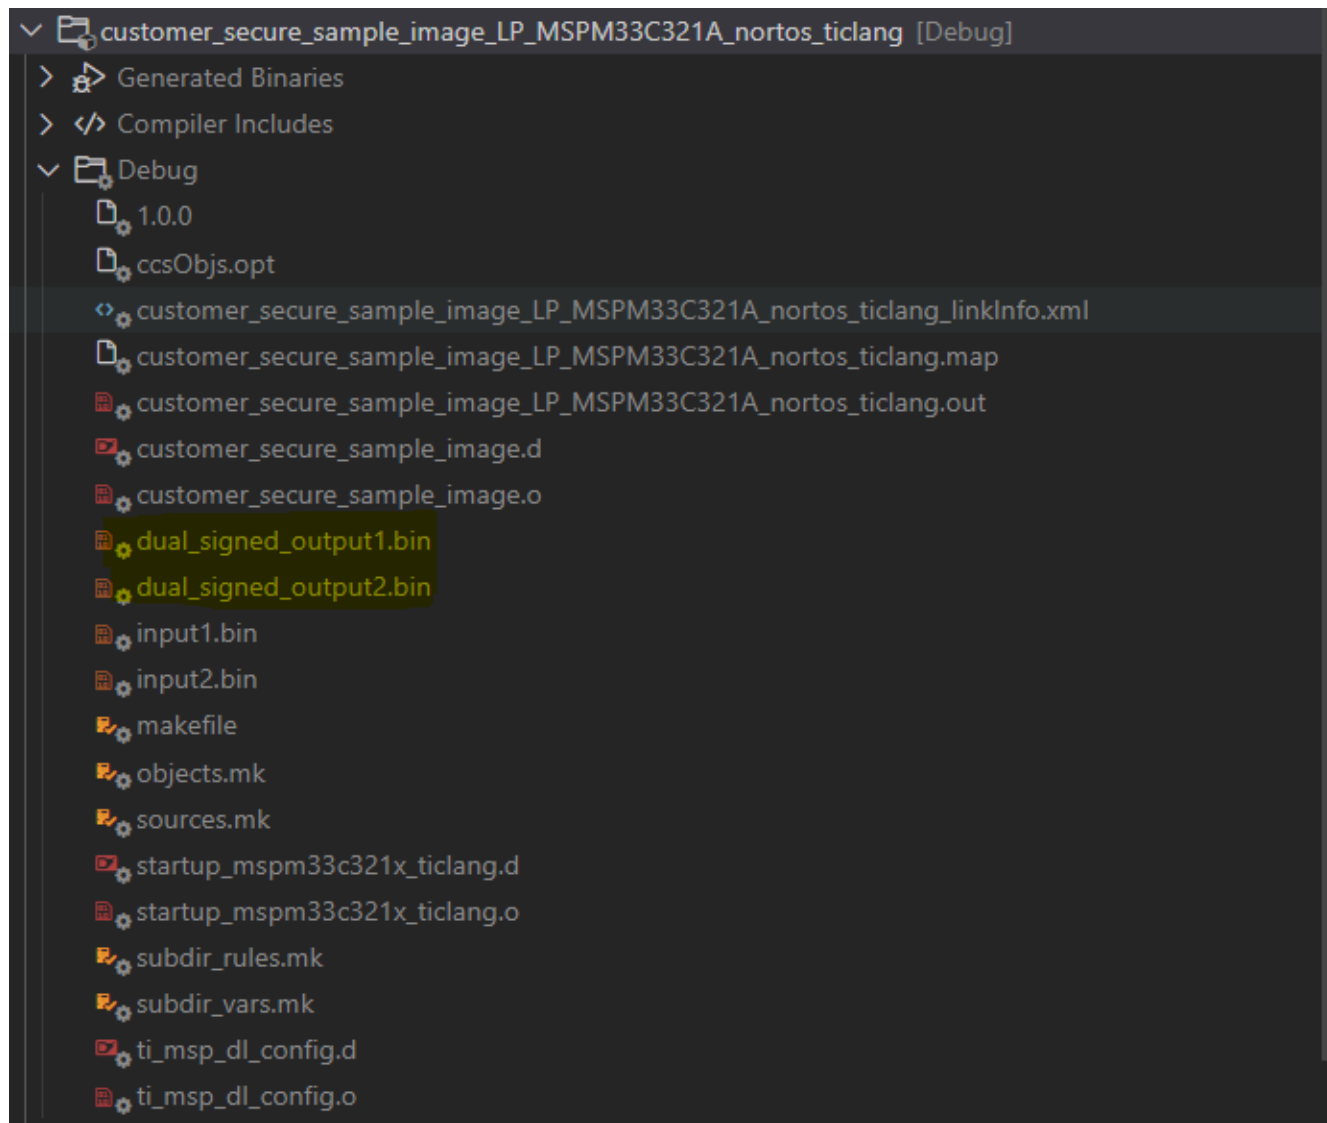

Figure 3-11. Debug Folder in the Project
- Now build the project again. This will generate the "dual_signed_output2.bin". Figure 3-11 shows what the debug folder looks like after building the two binaries.